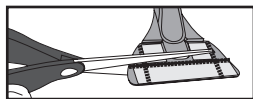

Figure 4.2; (Optional) Trim Blind Mount to Fit
If the HORIZONTAL BLIND MOUNT ⑥ extends beyond the top or the side of the blind's header, use scissors to trim the HORIZONTAL BLIND MOUNT ⑥ to fit [Fig. 4.2]. If you have a valance, make sure the top of the neck of the HORIZONTAL BLIND MOUNT ⑥ is even with or slightly below the bottom of the valance.